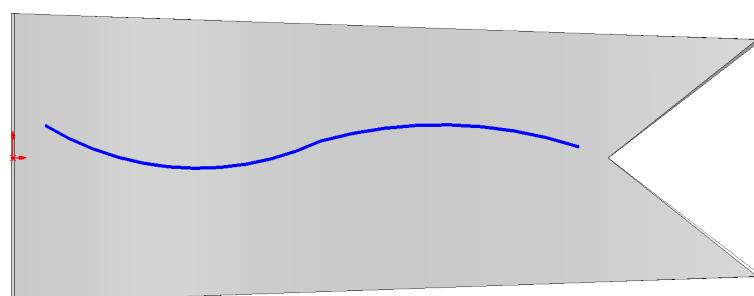

Fig. 25
Step 5. Sketch **two chained arcs with radius of first arc down and second arc radius up**, Fig. 25.